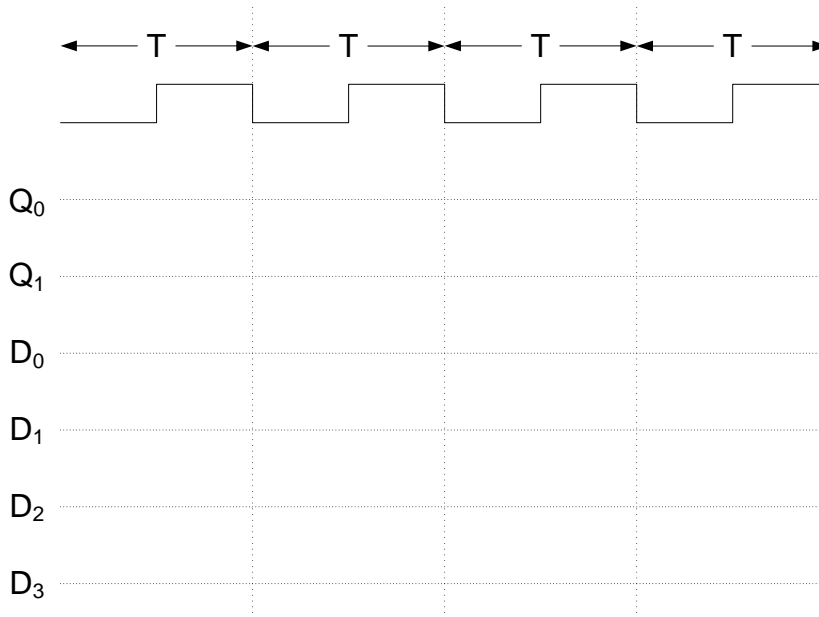

Figure 6.5: Timing Diagram.
- If the counter outputs are designated Q1Q0, you are required to sketch the waveforms of Q0, Q1, and D0-D3 of the decoder for 4 clock cycles. Use Figure 6.5 for this purpose assuming that Q1Q0=00 after first clock pulse.
- Assuming the counter input clock to have a period **T**, from the timing diagram of Figure 6.5 determine the following: